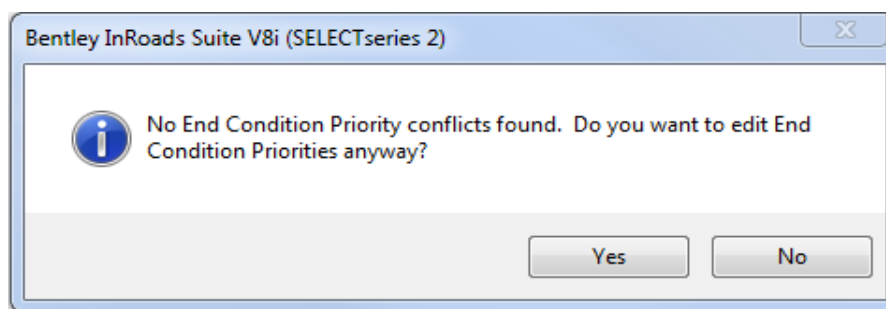

Figure 6-24 InRoads Edit End Condition Priorities Notification
- Q. If a message box appears stating that there are no conflicts, then proceed by either clicking **Yes** and continue to review or click **No** to change priorities. Below, Figure 6-24 shows this message box.